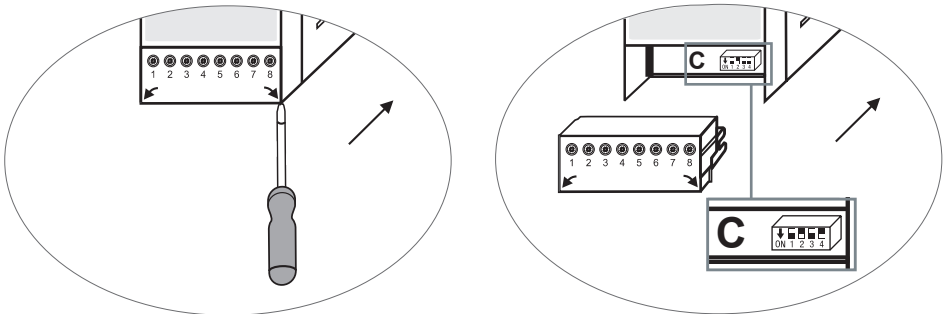

Fig. 5
See Figure 5
- Remove the lower terminal strip (Fig. 5).